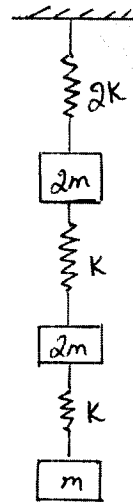

Fig. Q8(c)
- c. Find the lowest natural frequency of the system shown in Fig. Q8 (c) Stodola's method. Also plot the mode shape? (12 Marks)